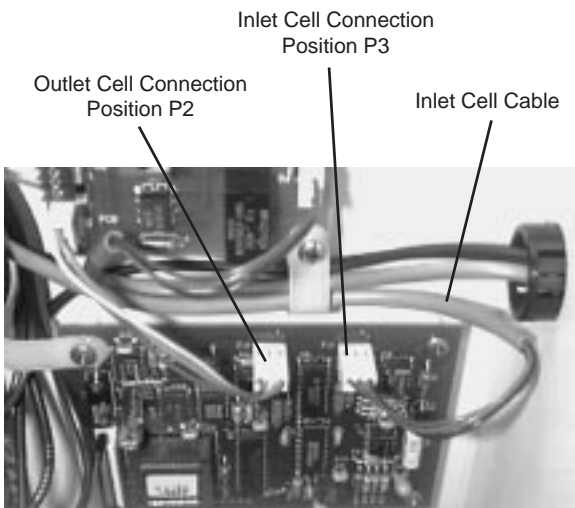

Figure 13 Inlet Cell Cable Connection to Circuit Board
7. Locate the outlet cell connection on the circuit board (see figure 13) and remove the outlet cell connection at P2.